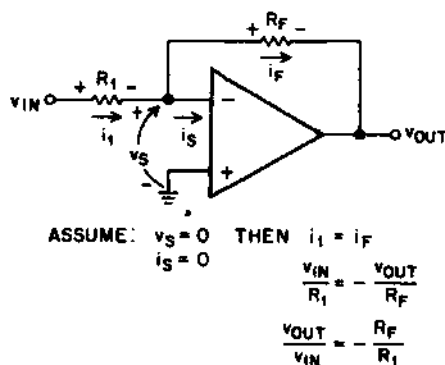
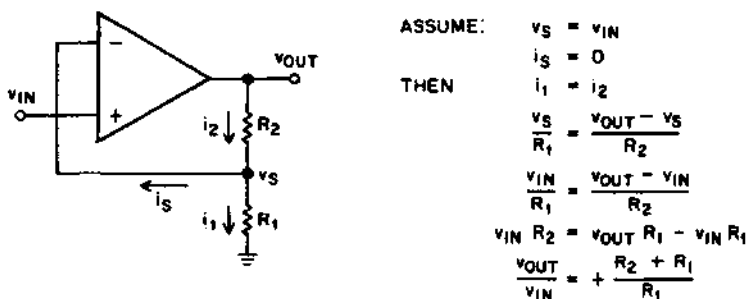

Fig. 2, Inverting Amplifier
Fig. 3, Non-Inverting Amplifier
When an op amp is working in the linear region, two approximations can be made to help in the analysis of the circuit configuration. First, the voltages of the two inputs are the same; and second, no current flows into or out of the input terminals. Fig. 2 shows a simple inverting amplifier. Assume the Minus Input is 0 volts, the same as the Plus Input, and that no current flows into the Minus Input, called the summing junction. Then  $i_1 = i_f$ , and some simple manipulations show that the gain is equal to  $-R_f/R_1$ . Similar reasoning applied to the non-inverting amplifier of Fig. 3 shows that the gain is equal to  $1 + \frac{R_2}{R_1}$ . An easy way to remember this is to think of the two resistors as forming a tapped divider network.
**Current offset.** Current offset (or bias current) multiplied by the feedback resistor (Fig. 2) produces an output error. This effect can be minimized by using the differential offset (the difference in offset currents for the two inputs) when the resistance seen from both inputs to ground are equal. For Fig. 2, the Plus Input should then be returned to ground through a resistor equal to the parallel combination of  $R_1$  and  $R_f$ .